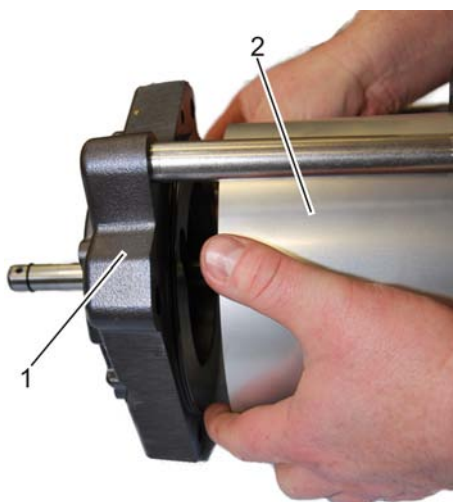

Fig. 66: Lower cap
- 4.** ➔ Push lower cap (Fig. 66/1) of drive component from air cylinder (Fig. 66/2).